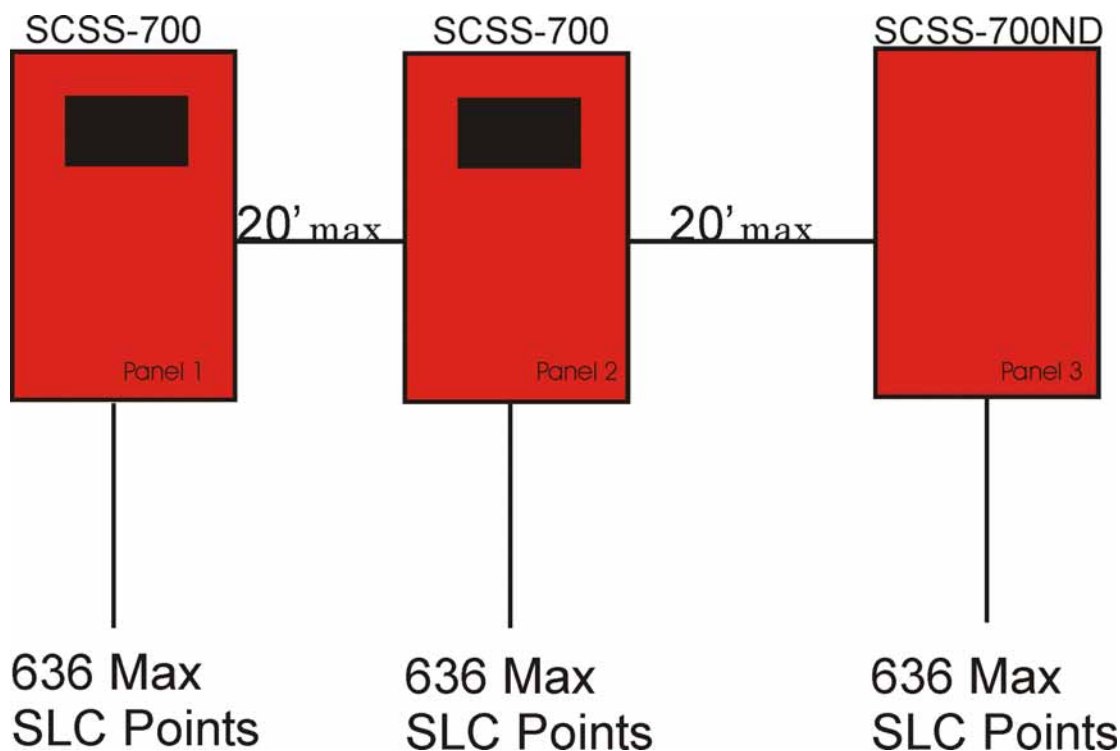

Figure 5-1 Direct Connect wiring option
When networking a group of SCSS-700s and/or SCSS-700NDs within a 20 foot radius of each other, you may use the direct connect method to link the panels together in the site. The cable used must be shielded twisted pair communication grade cable. See Figure 5-1, direct connect wiring option. The direct connect wiring option uses a BUS configuration. There are no T-taps or class A wiring options.
1. Mount the SCSS-700 and/or SCSS-700ND panels within 20 feet of conduit run distance from each other. Place the conduit for routing the direct connect networking cable between panels in a bus configuration as shown above in Figure 5-1